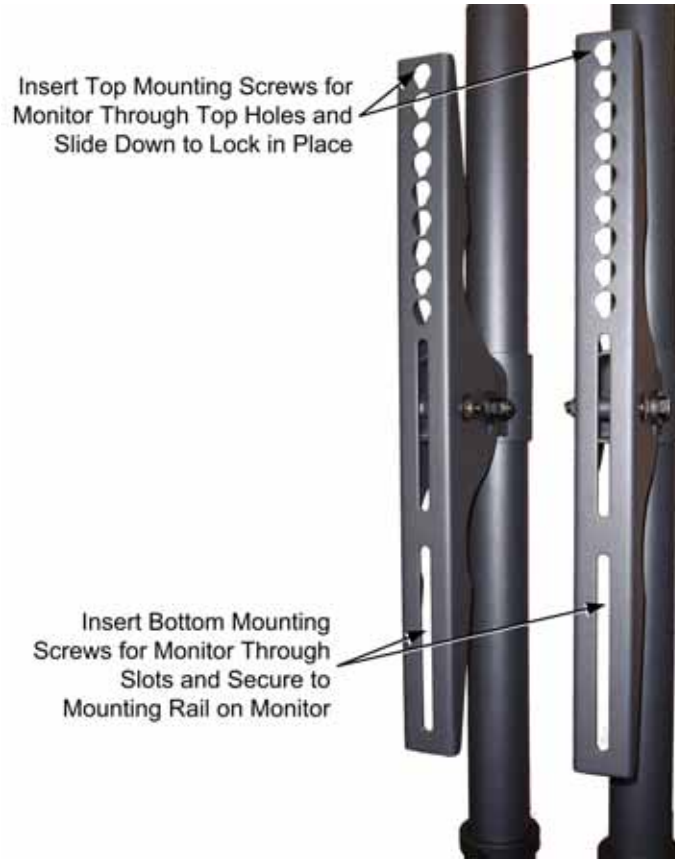

Figure 6. Vertical Rails on Monitor Stand
2. Place the monitor on the stand so the top mounting screws go through the top hole in each of the vertical rails (see Figure 6). They will slide down and lock into place. This puts the monitor at the optimal viewing height. (**Note:** Do not change the height of the tubular supports.)